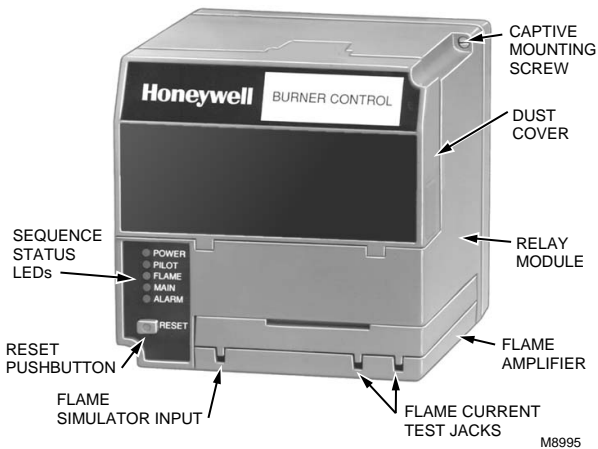

Fig. 1. Sequence status LED.
- Five LEDs for sequence information (see Fig. 1).